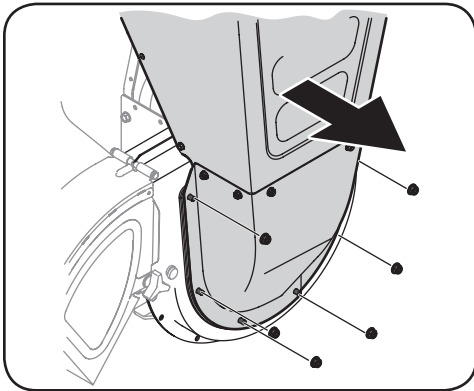

Figure 5-15
5. Remove six flange nuts which secure hopper inlet guide to impeller housing. See Figure 5-15.